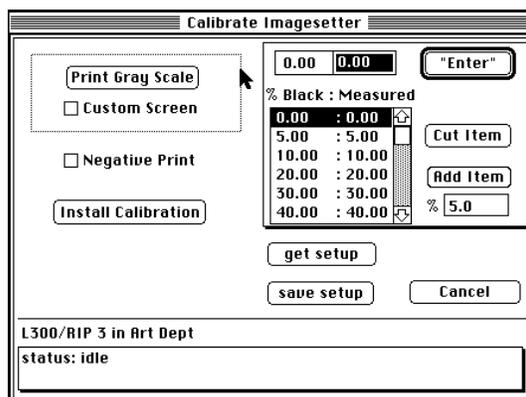

Figure 5 - The calibration portion of the Linotype Utility.
- The *Calibrate Imagesetter* dialog box (see Figure 5) shows a series of dot percent values. If you want to calibrate for a particular screen ruling,3 select *Custom Screen* and change the default value as desired. When you are ready, select *Print Gray Scale* to send the test to the imagesetter.4